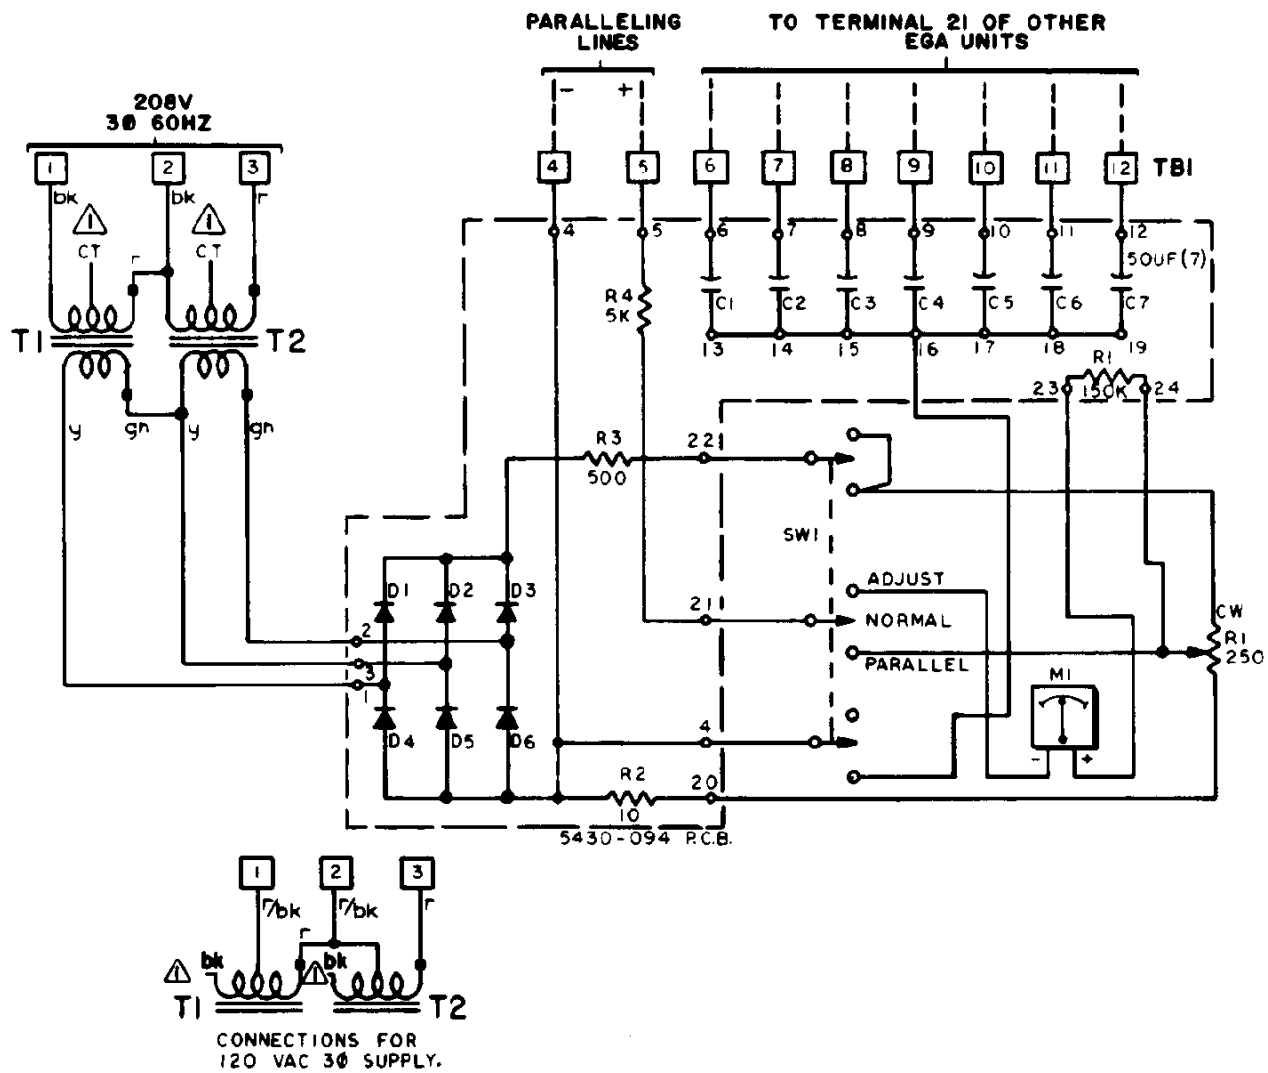

Figure 3-1. Wiring Schematic of the EG Series Power Transfer Control
The power transfer control is capable of operating with either 120 V three-phase or 208 V three-phase operating voltage. Figures 3-1, 3-2, and 3-3 show the power transformers and output terminal connections. Before operating, check the transformer wiring to ensure that it is wired for the desired operating voltage.
The wiring schematics (Figures 3-1, 3-2, and 3-3) show the wiring connections for each of the different power transfer controls. On the EG power transfer control, terminals 6 through 12 are connected to terminal 21 of each EGA Control Box connected to the parallel lines (or to terminal 11 on each EGM Control Box).
Circuit theory is the same for all versions of the Power Transfer Control. As shown in the detailed schematic diagrams (Figures 3-1, 3-2, and 3-3), there are three basic versions of the control: the EG series, 2301, and LSG type.
The only test equipment required to maintain the power transfer control is a Simpson Model 260 volt-ohm-ammeter or equivalent. If the power transfer control fails to perform as follows, check the circuit wiring and the individual components using the basic power transfer control schematic diagrams (Figures 3-1, 3-2, and 3-3).
3. Measure the voltage from PCB terminal 22 to terminal 20 (output of R3 to output of R2 if terminal numbering differs from that shown in Figures 3-1, 3-2, and 3-3). Test result:  $19 \pm 1$  Vdc.